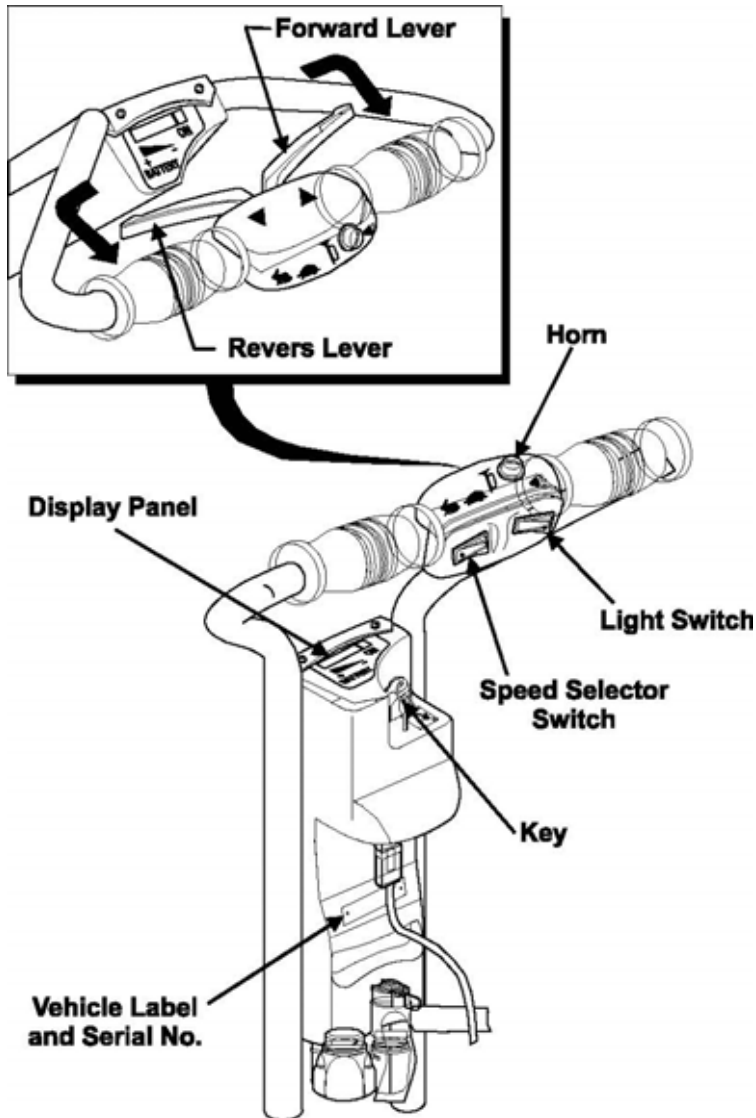

Figure 10.
1. 3.1 Mount the **SUPERLIGHT**, insert the **Key** into the **Slot** and turn it clockwise to the (marked) **ON** position. The **Key** will remain in this position. **Panel On Light** should come ON. (See Fig. 10).